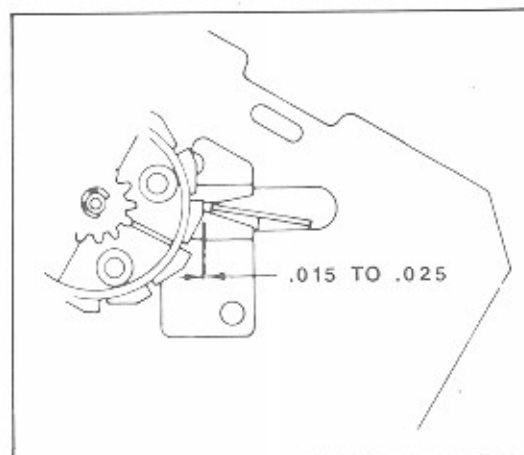
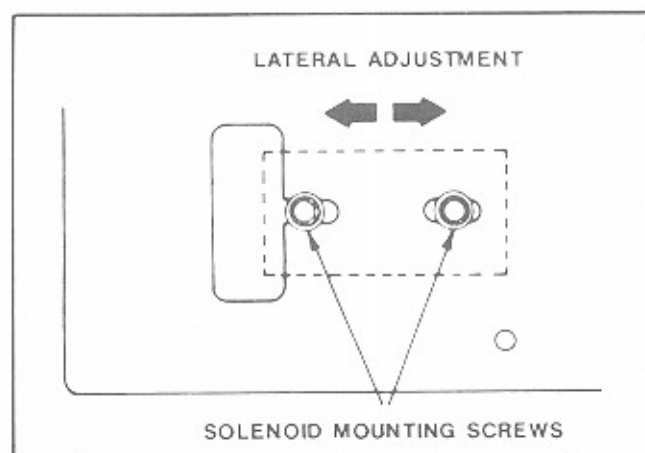

Figure 6-7. Sprag Wheel
Figure 6-9. Lateral Adjustment
The sprag lever must not touch the sprag wheel and the clearance must be .015 to .025 inches (see figure 6-7). It will be necessary to remove the sprag assembly if corrections are required.
2. Loosen the solenoid mounting screws (see figure 6-9) and with the roll pin against the plunger stop, position the solenoid so that there is a .015 to .025-inch gap between the sprag lever and the highest point on the sprag wheel (see figure 6-7).